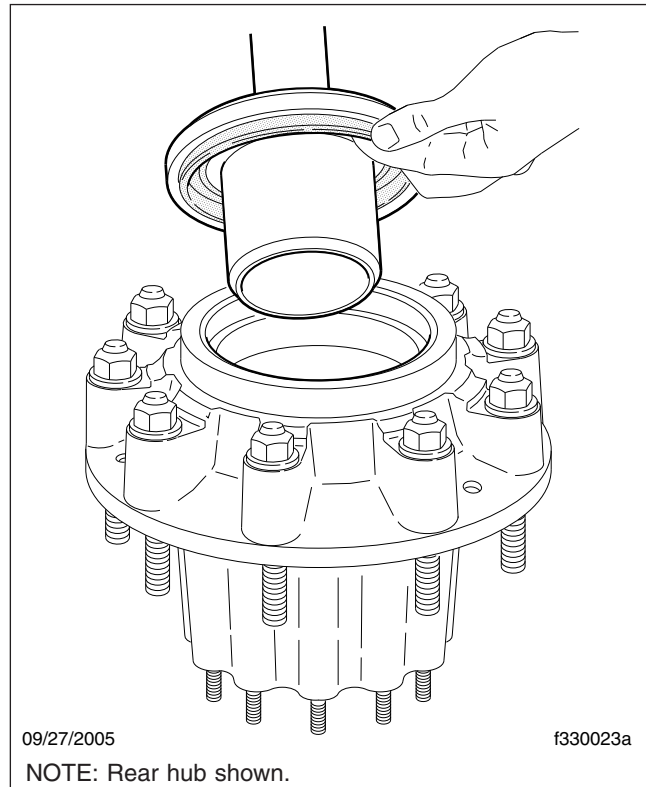

Fig. 4, Insert the Tool in the Hub Bore
10. Insert the centering plug of the tool in the bore of the inner bearing cone. See Fig. 4. The plug prevents cocking of the seal in the bore.